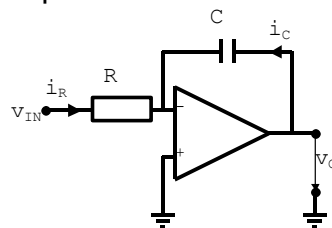

Figure 8.8
8. The schematic diagram of an integration stage made using an operational amplifier is shown in Figure 8.8. The output voltage v_o has the expression: